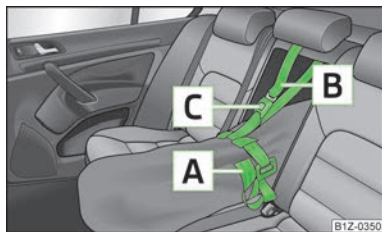

Fig. 82
- Tighten the strap **A** on the free end around the skis in front of the bindings » Fig. 82.
- After placing skis into the through-loading bag, you must secure the bag with the securing strap **B** » Fig. 82.